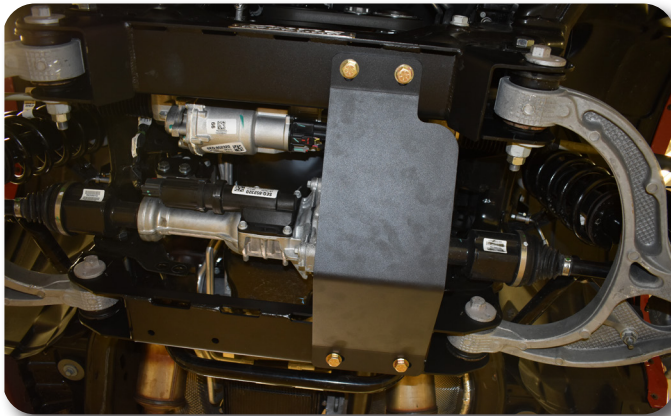

Figure 38
66. Install the new differential skid plate to the front and rear crossmembers with four 1/2" x 1-1/4" bolts, 1/2" SAE washers and prevailing torque nuts. Hardware is from BP #470. Figure 38